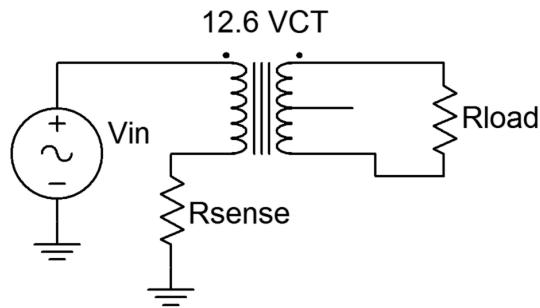

Figure 2
- Build the circuit of Figure 2 using $R_{sense} = 22 \Omega$, $R_{load} = 10 \Omega$ and $V_{in} = 5$ volt peak sine at 60 Hz. Place one scope probe across the load and the other across R_{sense} . Record the peak amplitudes in Table 2 and capture an image of the scope display.